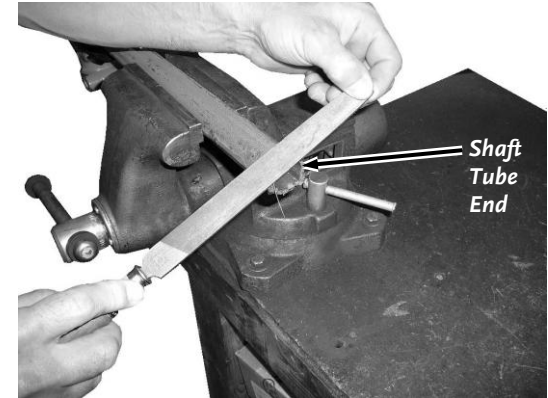

Figure 13
5. File or sand any burrs from the Shaft ends (**Figure 13**).